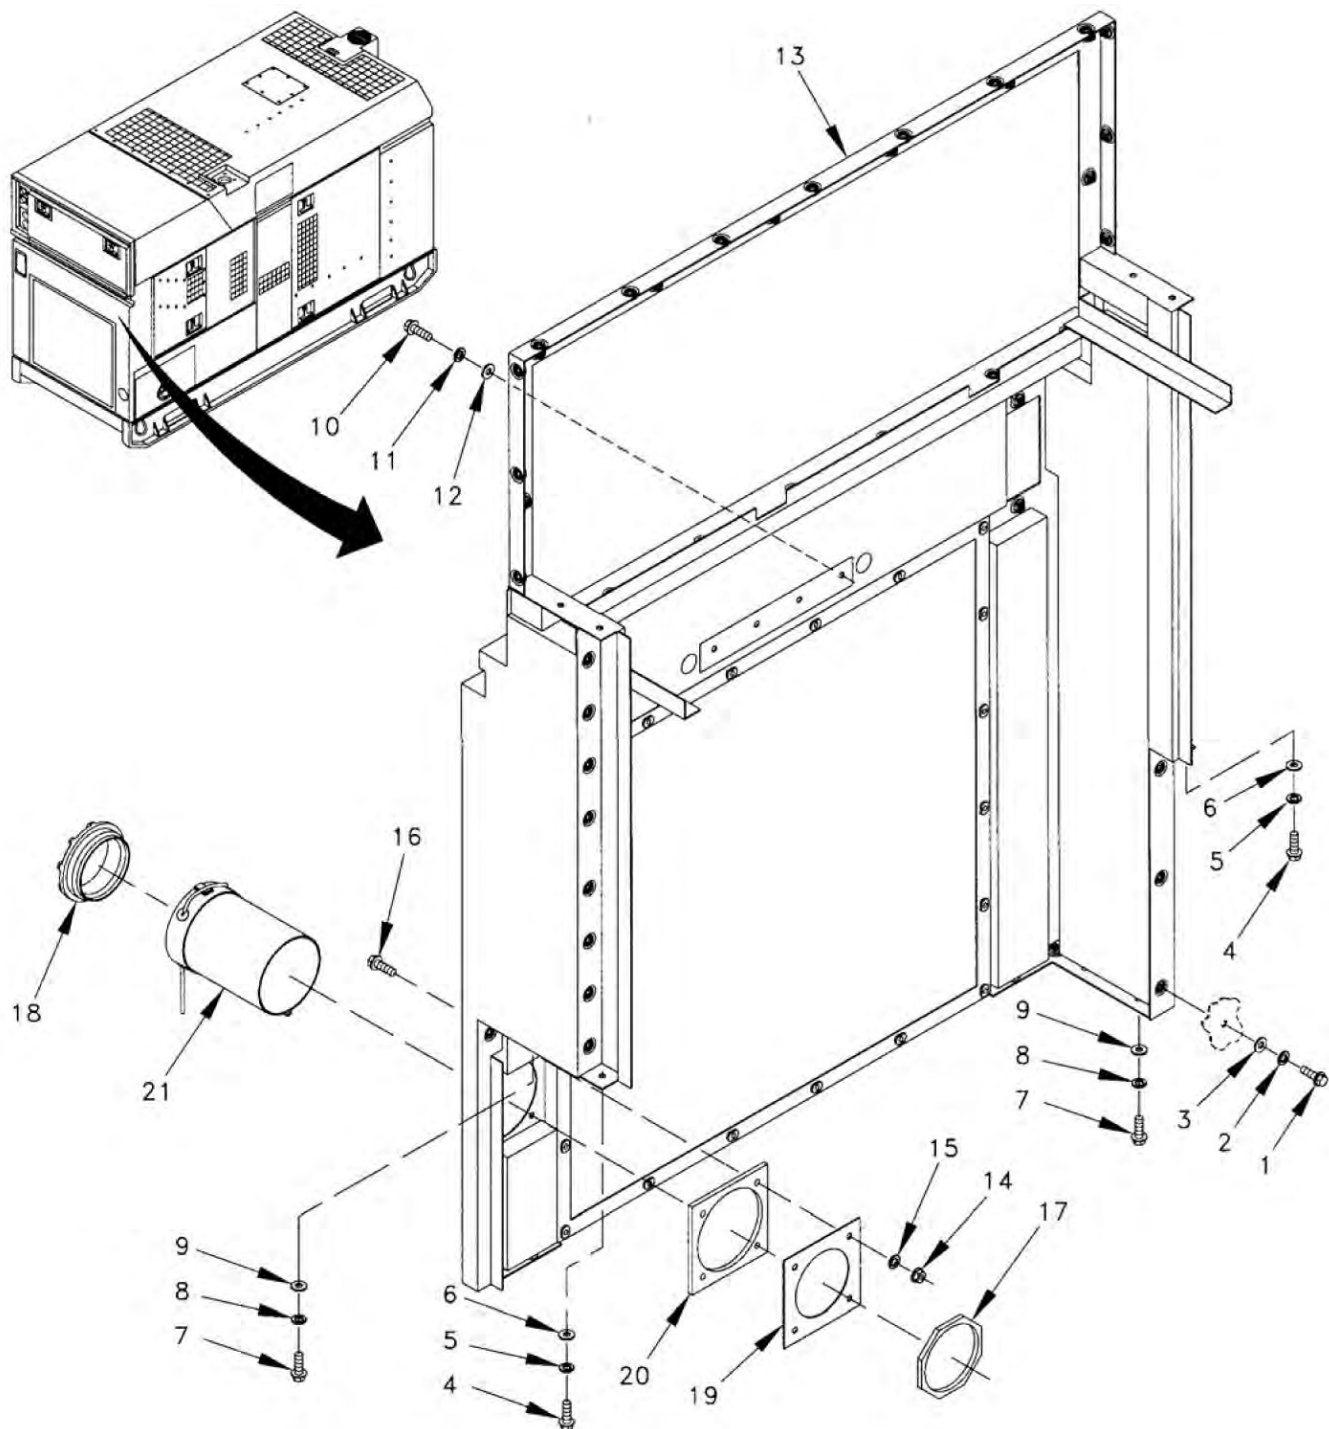

Figure 1. Rear Section Housing Assembly.
1. Remove three screws (Figure 1, Item 1), lock washers (Figure 1, Item 2), and washers (Figure 1, Item 3).
2. Remove two screws (Figure 1, Item 4), lock washer (Figure 1, Item 5), and washer (Figure 1, Item 6).
3. Remove six screws (Figure 1, Item 7), lock washers (Figure 1, Item 8), and washers Figure 1, Item 9).
4. Remove four screws (Figure 1, Item 10), lock washers (Figure 1, Item 11), and washers (Figure 1, Item 12) and rear section housing assembly (Figure 1, Item 13).
1. Remove four nuts (Figure 1, Item 14), washers (Figure 1, Item 15), screws (Figure 1, Item 16), lockring (Figure 1, Item 17), bushing (Figure 1, Item 18), retainer plate (Figure 1, Item 19), spacer (Figure 1, Item 20), and sleeve (Figure 1, Item 21).
2. Install sleeve (Figure 1, Item 21), spacer (Figure 1, Item 20), retainer plate (Figure 1, Item 19), bushing (Figure 1, Item 18), lockring (Figure 1, Item 17), four screws (Figure 1, Item 16), washers (Figure 1, Item 15), and nuts (Figure 1, Item 14).
1. Install rear section housing assembly (Figure 1, Item 13).
2. Install four screws (Figure 1, Item 10), lock washers (Figure 1, Item 11), and washers (Figure 1, Item 12) to rear section housing assembly (Figure 1, Item 13).
3. Install six screws (Figure 1, Item 7), lock washers (Figure 1, Item 8), and washers Figure 1, Item 9).
4. Install two screws (Figure 1, Item 4), lock washer (Figure 1, Item 5), and washer (Figure 1, Item 6).
5. Install three screws (Figure 1, Item 1), lock washers (Figure 1, Item 2), and washers (Figure 1, Item 3).